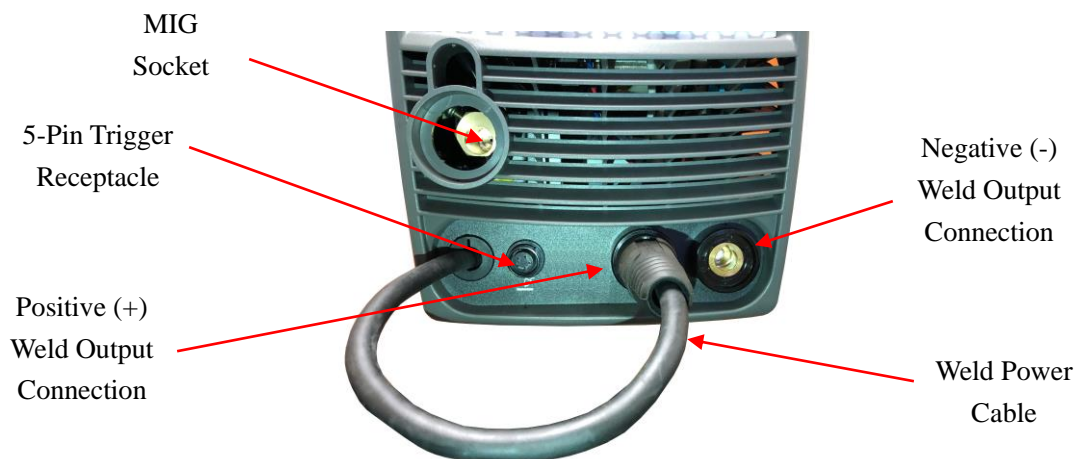

Figure 8
7.1.1 Electrode Positive for MIG Welding - The Weld Power Cable (see Figure 8) should be connected to the positive (+) weld output connection on the front of the machine. The ground cable would then be connected to the negative (-) weld output connection.
3. Insert the back end of the MIG torch into the MIG socket on the front of your machine (Figure 8). Make certain to completely slide the torch all the way in. Slightly twist to assist with pushing the torch to the back of the receptacle. The retaining bolt can then be tightened, making certain the bolt sets down into the retaining groove on the back of the MIG torch.
4. Connect the 5-Pin trigger connection on the MIG torch to the 5-Pin trigger receptacle on the front panel (Figure 8).
1. Install the ground cable quick connector to the negative (-) Weld Output Connector (Figure 8).
1. Remove the ground cable and the electrode holder from the weld output connections. Install the ground cable to the positive (+) weld output connection (Figure 8).
- 2.2.1.2 Connect the Weld Power Cable (See Figure 8 or follow the onscreen visual) to the Positive (+) Weld Output Connection. Press the MULTI-FUNCTION ADJUSTMENT/SELECTION KNOB
- 2.2.2.1 Connect the Weld Power Cable (See Figure 8 or follow the onscreen visual) to the Positive (+) Weld Output Connection. Press the MULTI-FUNCTION ADJUSTMENT/SELECTION KNOB to confirm your selection.